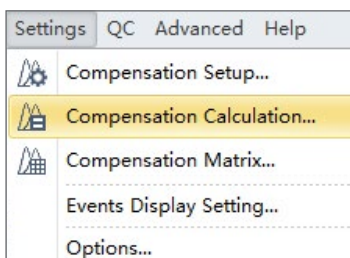

Figure 17. CytExpert settings submenu showing the command for setting the Compensation Calculations.
7. Select "Compensation Calculation" in the Compensation menu (Figure 17) to calculate the compensation values. The Compensation Matrix window (Figure 18) appears, displaying the calculated compensation values.